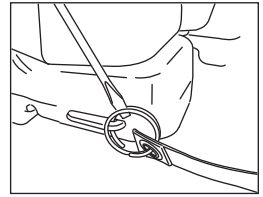

Figure 2.
2. Use a flat blade screwdriver to spread the rings on the end of the shoulder straps. Insert the rings into the holes on the tank base tabs. Turn the ring until it is completely through the holes. Make sure the straps are not twisted. **See Figure 2.**